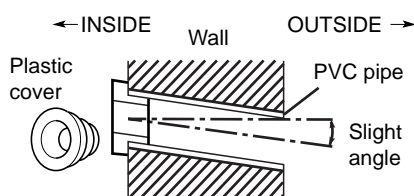

Fig. 3-50
- (6) Place the plastic cover over the end of the pipe. (for indoor side only) and insert in the wall. (Fig. 3-50)